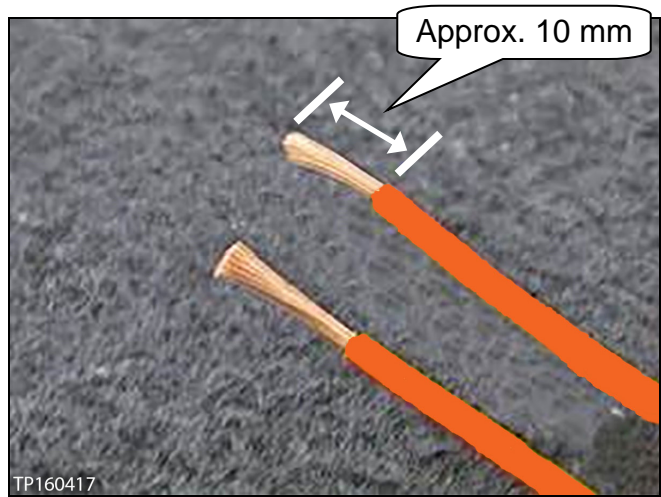

Figure 15
13. Strip approximately 10 mm (about 3/8 inch) of insulation from the ends of the cut wire and new wire with terminal from the harness kit. See Figure 15.